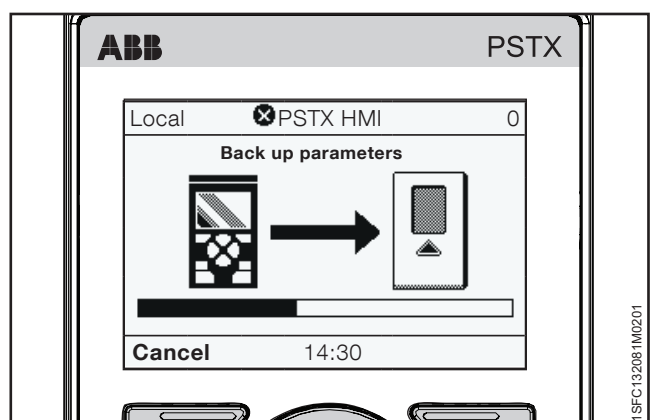

Figure 6.33
4. Push “Select” for the upload of the parameters. This shows as in **Figure 6.33**.